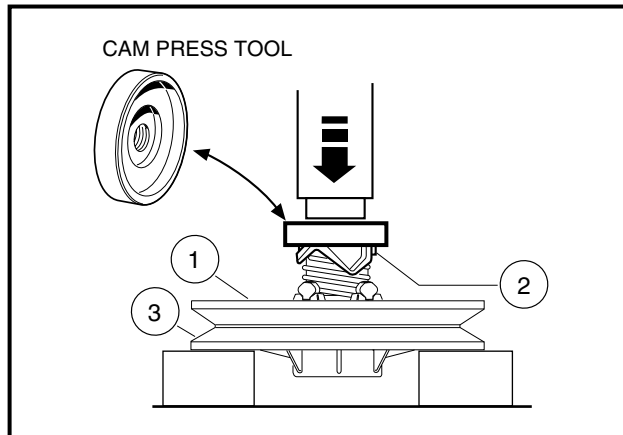

Figure 17-19 Cam Press Tool
- 5.1.1. Place the clutch assembly in a press and position the cam press tool (CCI P/N 101809101) on the cam as shown (**Figure 17-19, Page 17-17**).
- 5.1.2. Hold the fixed face assembly (3) and rotate the moveable face assembly (1) one-third turn clockwise, then press the cam (2) onto the fixed face assembly (**Figure 17-19, Page 17-17**).
- 5.2.4. Hold the clutch assembly and cam installation tool together and place the fixed face down on spaced blocks as illustrated (Figure 17-19, Page 17-17).